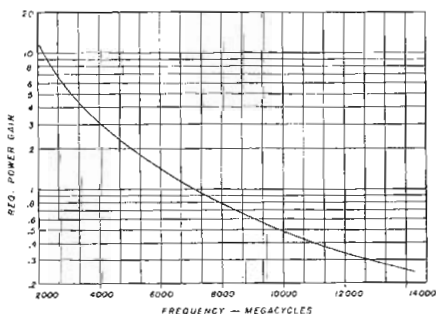

Fig. 2: Relative merit of 7000 MC transmission system used on different frequencies
location. The curve of Fig. 2 gives the relation of equation (3) based on a frequency of 7000 MC. The antenna systems are assumed to have the same effective area.